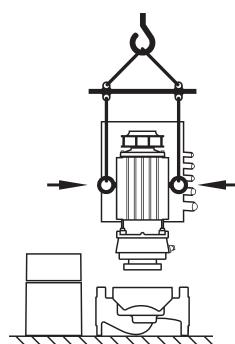

Fig. 25: Transporting the motor impeller unit
- If the transport eyes have been moved from the motor flange and installed at the motor housing, then they are only approved for carrying or transporting the motor impeller unit (Fig. 25) and not for transport of the whole pump and not for separation of the